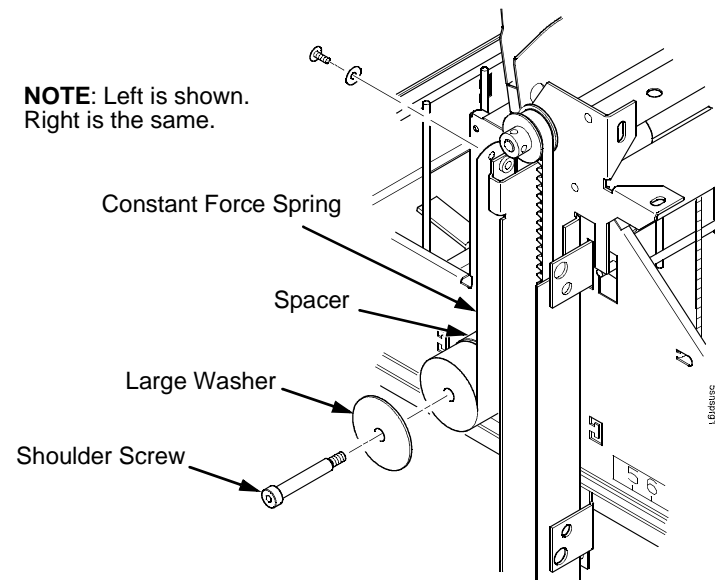

Figure 103. This figure shows how to release the constant force spring.
6. Remove the shoulder screw, washers, and spacer that secures the constant force spring to the vertical rail. (Figure 103.)